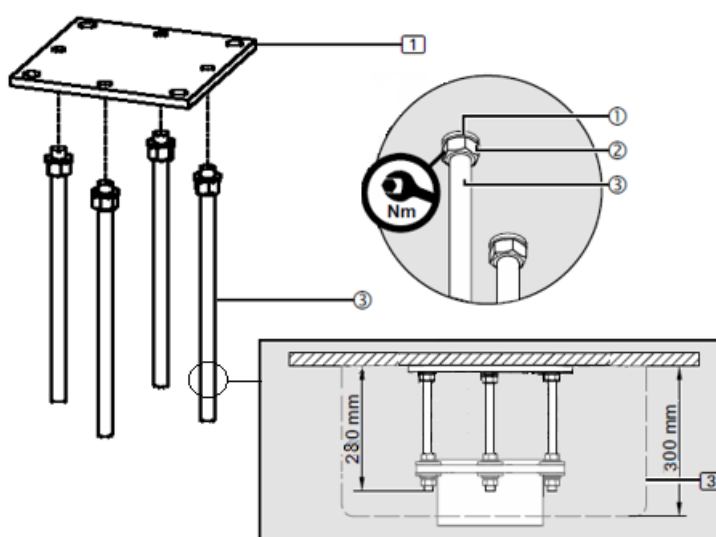

Fig. 5 Mounting of interface plate without false ceiling
- For the ceiling trim (3), which has a height of 300 mm, the 6/12 M16 x 350 mm threaded bolts ③ must be cut to 280 mm. See Fig. 5.
- Lightly deburr the M16 x 350 mm threaded bolts ③ to ensure maximum thread engagement in the interface plate (1).
- Thread 1 M16 hex nut ② each onto the M16 threaded bolts ③ and then fit 1 spring washer ① each.